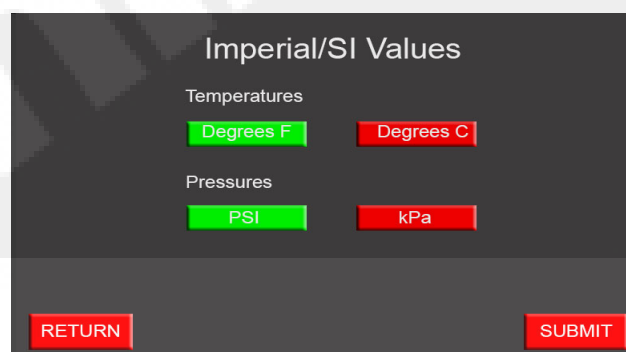

Figure 4-14 Parameter Units Screen (Typical)
The Imperial/SI Values Screen, shown in Figure 4-14, allows the operator to select Imperial or *Système Internationale* (SI) (also known as metric) units of measurement. The default units of measure are Imperial units of degrees in Fahrenheit and pounds per square inch (PSI), but the user may elect degrees in Celsius or kilo Pascal (kPa).